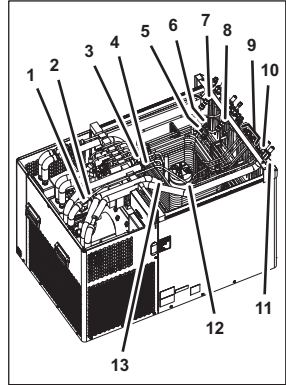

Figure 91
11. Disconnect the coupling (Figure 91/5) from the T-fitting (Figure 91/6) of the soda water circulation line (return) (Figure 91/7 and 8).
12. Disconnect the additional syrup connections (Figure 91/9) from the connecting plate (Figure 91/11).
13. Disconnect the coupling (Figure 91/10) of Water-IN line 2 (Figure 91/12) from the connecting plate (Figure 91/11).
14. Disconnect Water-IN line 2 (Figure 91/12) from the push-in fitting (Figure 91/2) of the water inlet valve (Figure 91/1).
15. Lift Water-IN line 2 (Figure 91/12) out of the unit.
16. Disconnect the connecting line from carbonator pump 1 to pre-cooling coil 1 from the coupling (Figure 91/13).
17. Disconnect the connecting line from carbonator pump 2 to pre-cooling coil 2 from the coupling (Figure 91/4).
18. Disconnect the coupling (Figure 91/3) from the soda water line to the circulation pump from the T-fitting.
29. Attach the coupling (Figure 91/4) from the soda water line to the circulation pump to the T-fitting.
30. Attach the connecting line from carbonator pump 2 to pre-cooling coil 2 to the coupling (Figure 91/3).
31. Attach the connecting line from carbonator pump 1 to pre-cooling coil 1 to the coupling (Figure 91/13).
32. Position Water-IN line 2 (Figure 91/12) within the unit.
33. Attach Water-IN line 2 (Figure 91/12) to the push-in fitting (Figure 91/2) of the water inlet valve (Figure 91/1).
34. Attach the coupling (Figure 91/10) of Water-IN line 2 (Figure 91/12) to the connecting plate (Figure 91/11).
35. Attach the additional syrup connections (Figure 91/9) to the connecting plate (Figure 91/11).
36. Attach the coupling (Figure 91/5) to the T-fitting (Figure 91/7) of the soda water circulation line (return) (Figure 91/6 and 8).